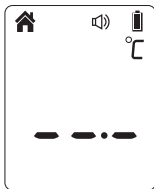

Figure 6
1. Press the *Test Button* to turn on the thermometer, you can take the object temperature after going into measurement mode (See Figure 6).